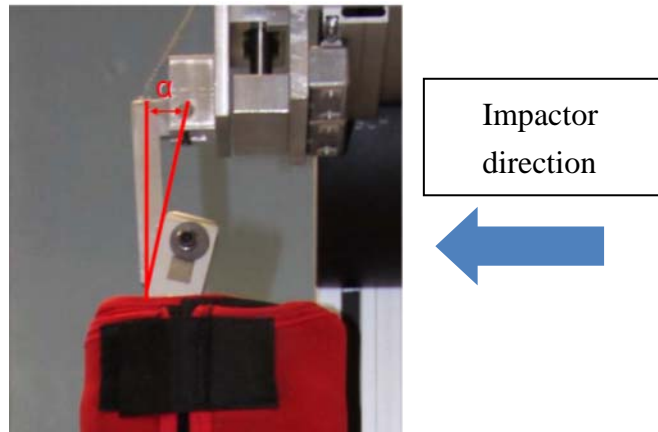

Figure 91 . Launch guide with 15° tilt toward guided impactor
Step 2: Make sure the launch guide at the top of the femur is locked tilting 15° towards the impactor. Lock in position using the two M6 screws both sides. This allows the leg to hang vertically on the spring loaded release mechanism. See Figure 91 below.